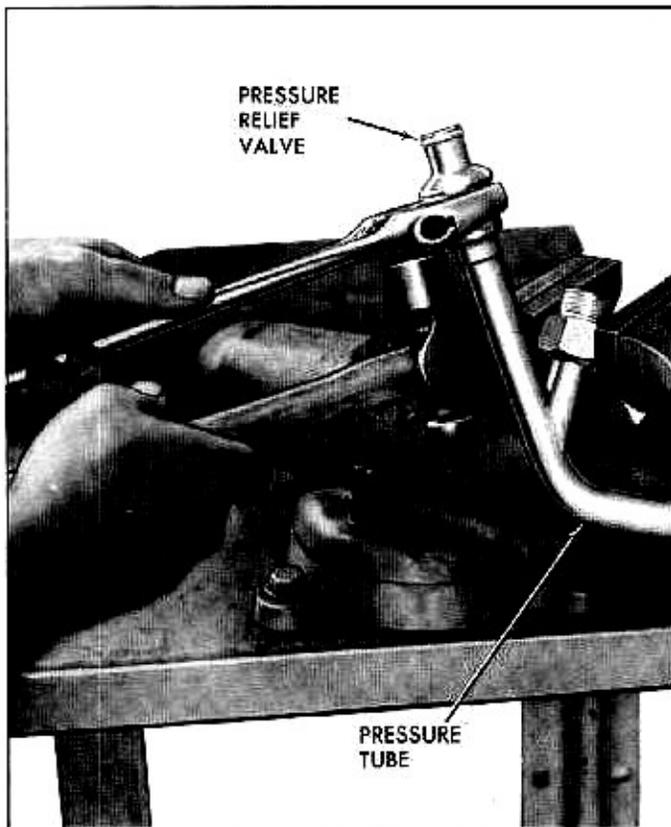

Fig. 6—Removing Pressure Relief Valve
1. Using an adjustable wrench and a hammer, tap relief valve from the left tube, being careful to support tube sufficiently to prevent distortion (fig. 6).